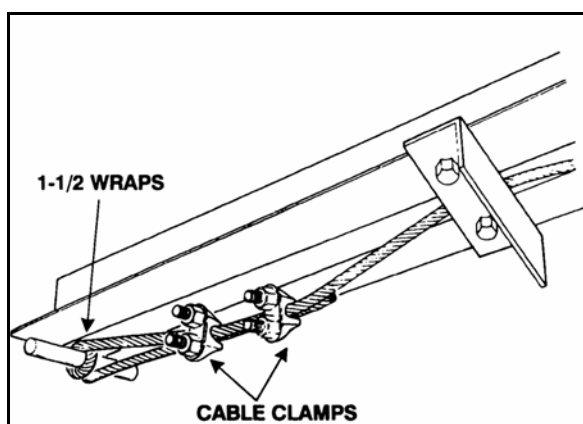

Figure 3.27
Note: On auger equipped with a lower angle-iron track stop, the cable must be threaded between track stop and auger tube so cable rests on top of the track stop (See Figure 3.27).
4. Wrap cable 1-1/2 times around the cable attach rod and secure with two 1/4" cable clamps. Position cable clamps as shown in Figure 3.27 and 3.28. Tighten clamps securely.